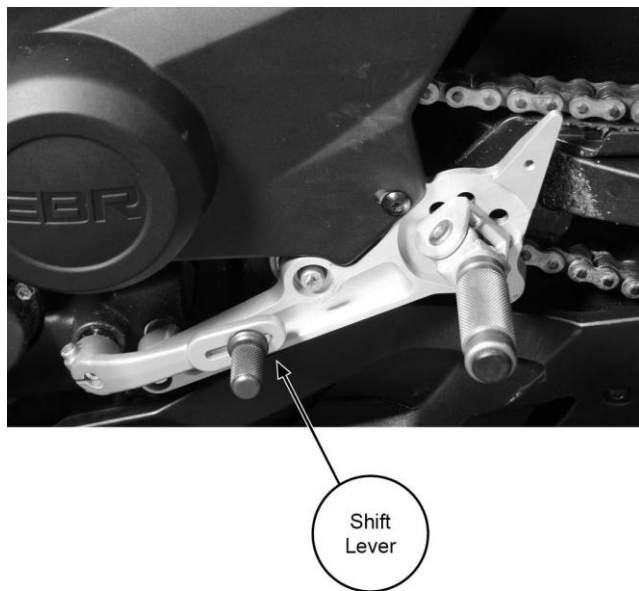

Figure 24
3. See Figure 24. Lift the gear shift lever up to the end of its travel and release.